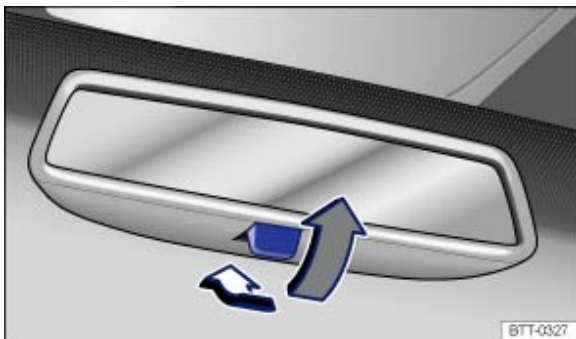

Fig. 99 Manual anti-dazzle interior mirror
- Pull the lever to the back to select the anti-dazzle function → Fig. 99.
The automatic anti-dazzle function is switched on and off using the switch in the interior mirror → Fig. 99 . The indicator lamp → Fig. 99  will light up when the automatic anti-dazzle function is switched on.
When the ignition is switched on, the sensor → Fig. 99  will, depending on the surrounding light levels and the intensity of the headlights *automatically* darken the interior mirror when a vehicle approaches from the rear with headlights on.